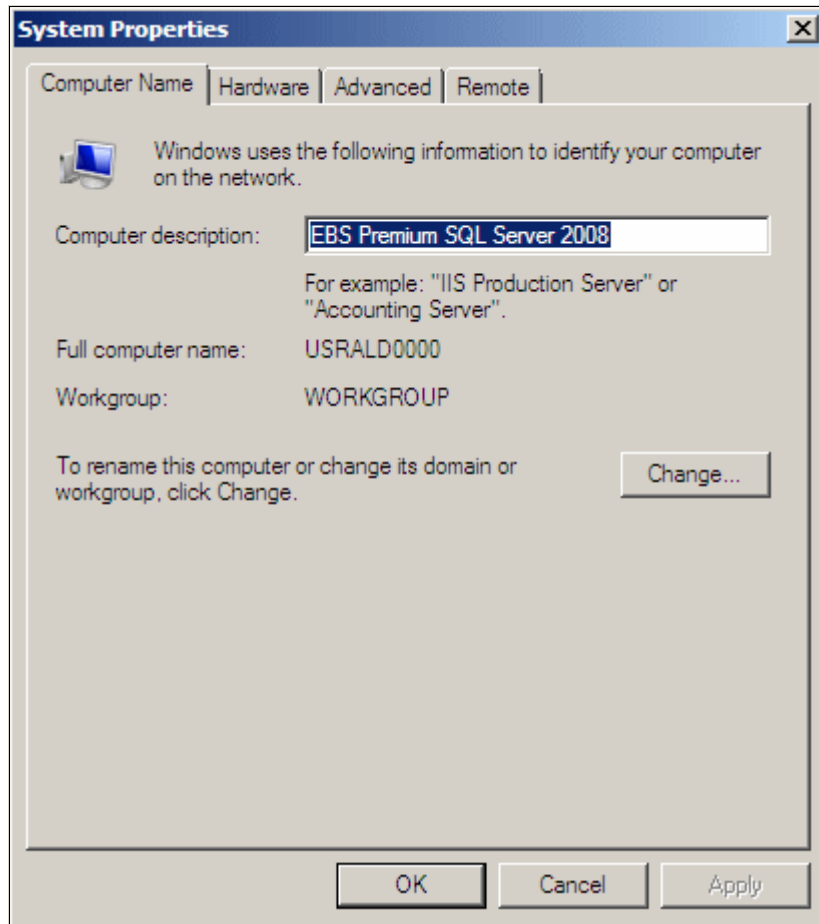

Figure 6-8 System Properties
2. The “System Properties” panel (Figure 6-8) shows the current server settings. On the “Computer Name” tab, click **Change** to change the server name.